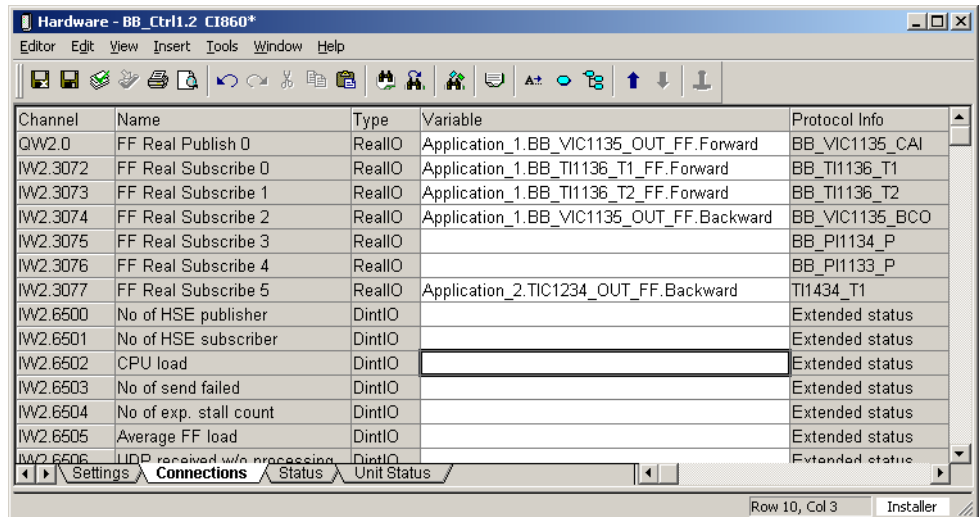

Figure 183. Hardware Editor of the CI860 Object
8. Open the hardware editor via the context menu by means of **Editor** (see Figure 183).